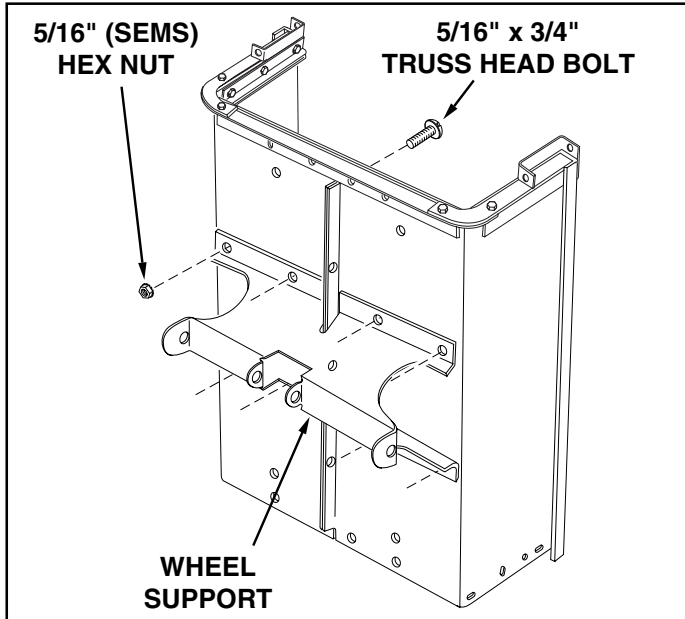

FIGURE 4
10. Assemble the wheel support to the bottom of the cart using eight 5/16" x 3/4" truss head bolts and 5/16" (SEMS) hex nuts as shown in figure 4. Heads of bolts go on the inside of cart. **Tighten**.